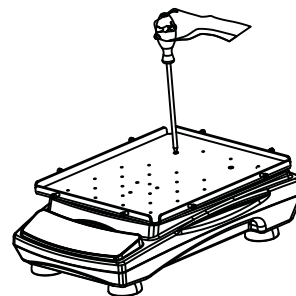

figure 2
2. Align counter bores and nut columns, and fasten the screws as shown in the figure 2.